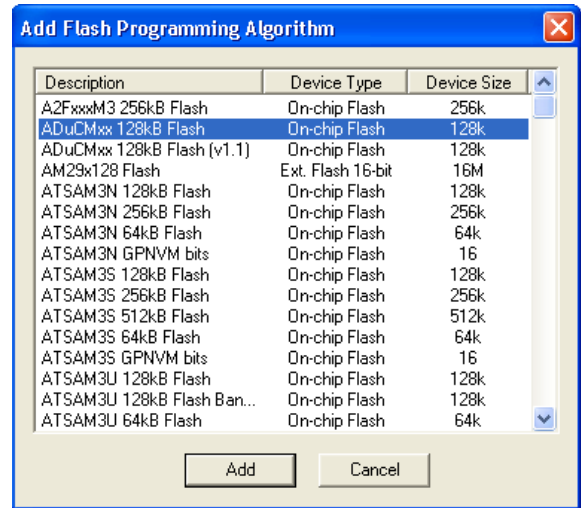

Figure 31. Add Flash Programming Algorithm
6. Select **Add** to display the window shown in Figure 31.